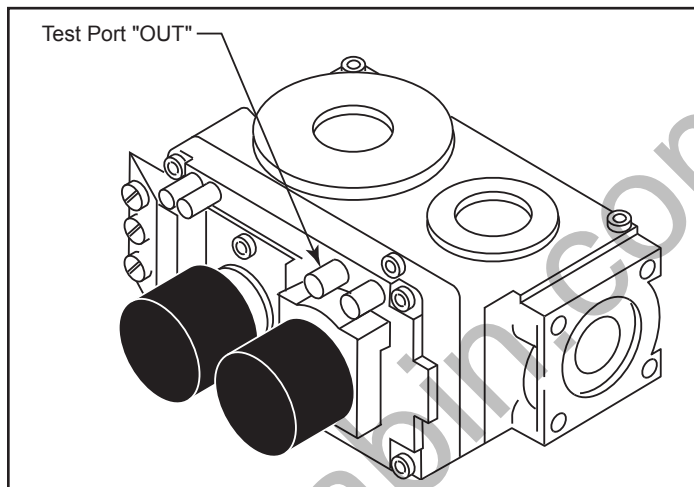

Figure 10 - Pressure Test Point Location Millivolt Control
**Millivolt Control - Figure 10**